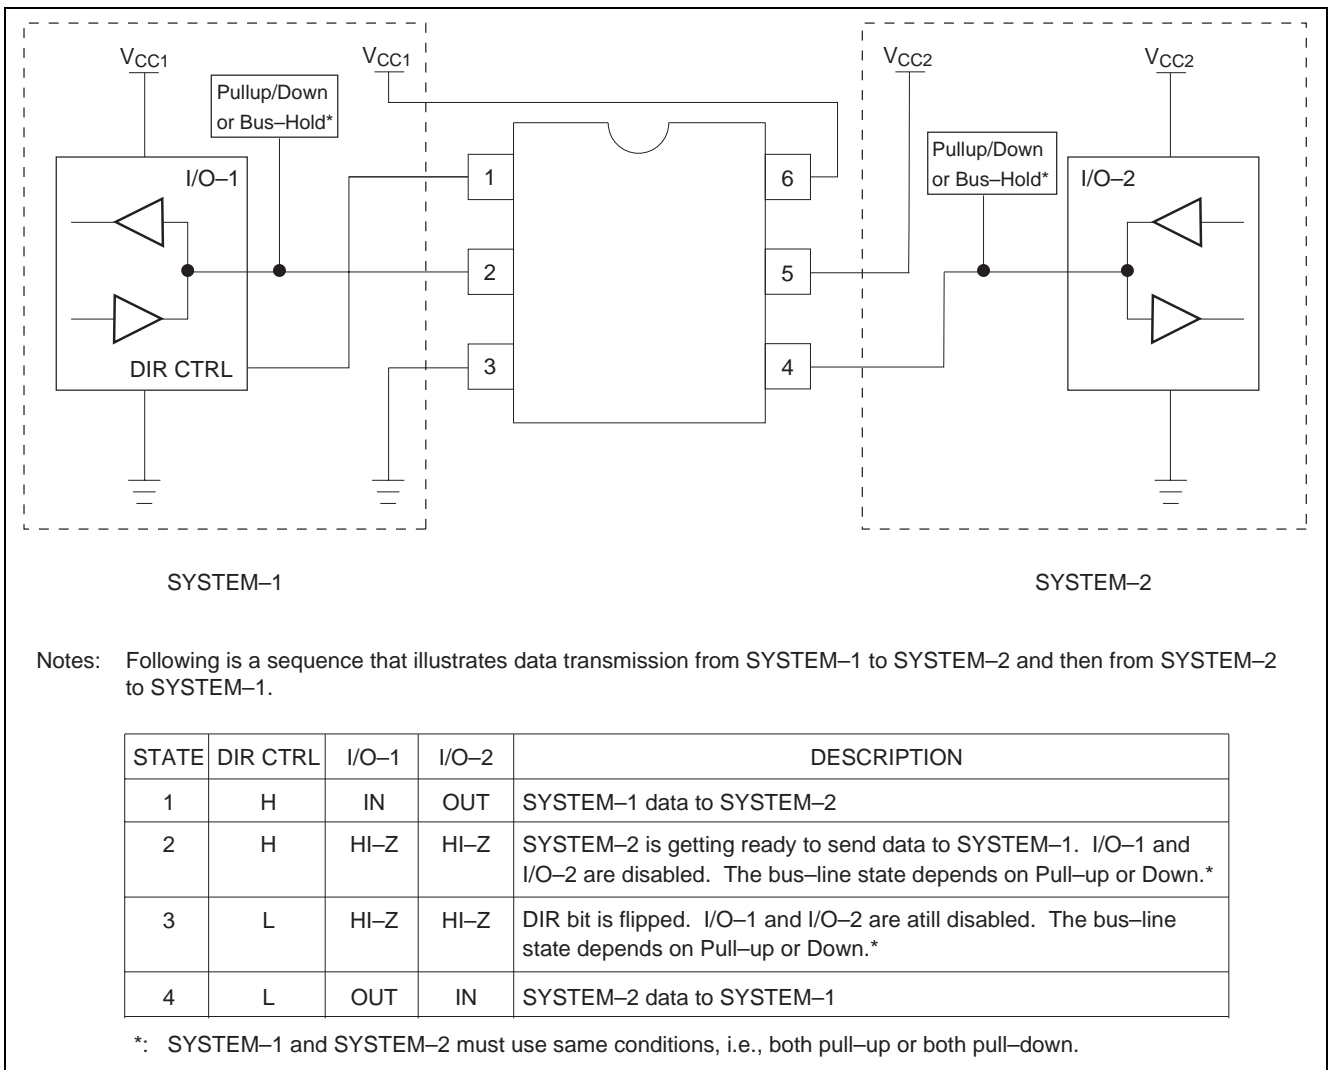

Figure 2. Bidirectional Logic Level-Shifting Application
Figure 2 shows the RD74VT1G245 used in a bidirectional logic level-shifting application. Since the RD74VT1G245 does not have an output enable (OE) pin, the system designer should take precautions to avoid bus contention between SYSTEM-1 and SYSTEM-2 when changing directions.